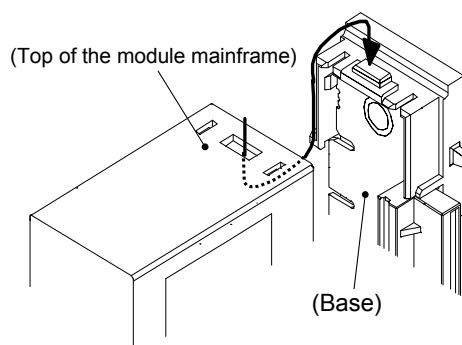

Fig. 2: Mounting the module mainframe
5. Mount the module on the base. (Fig. 2)